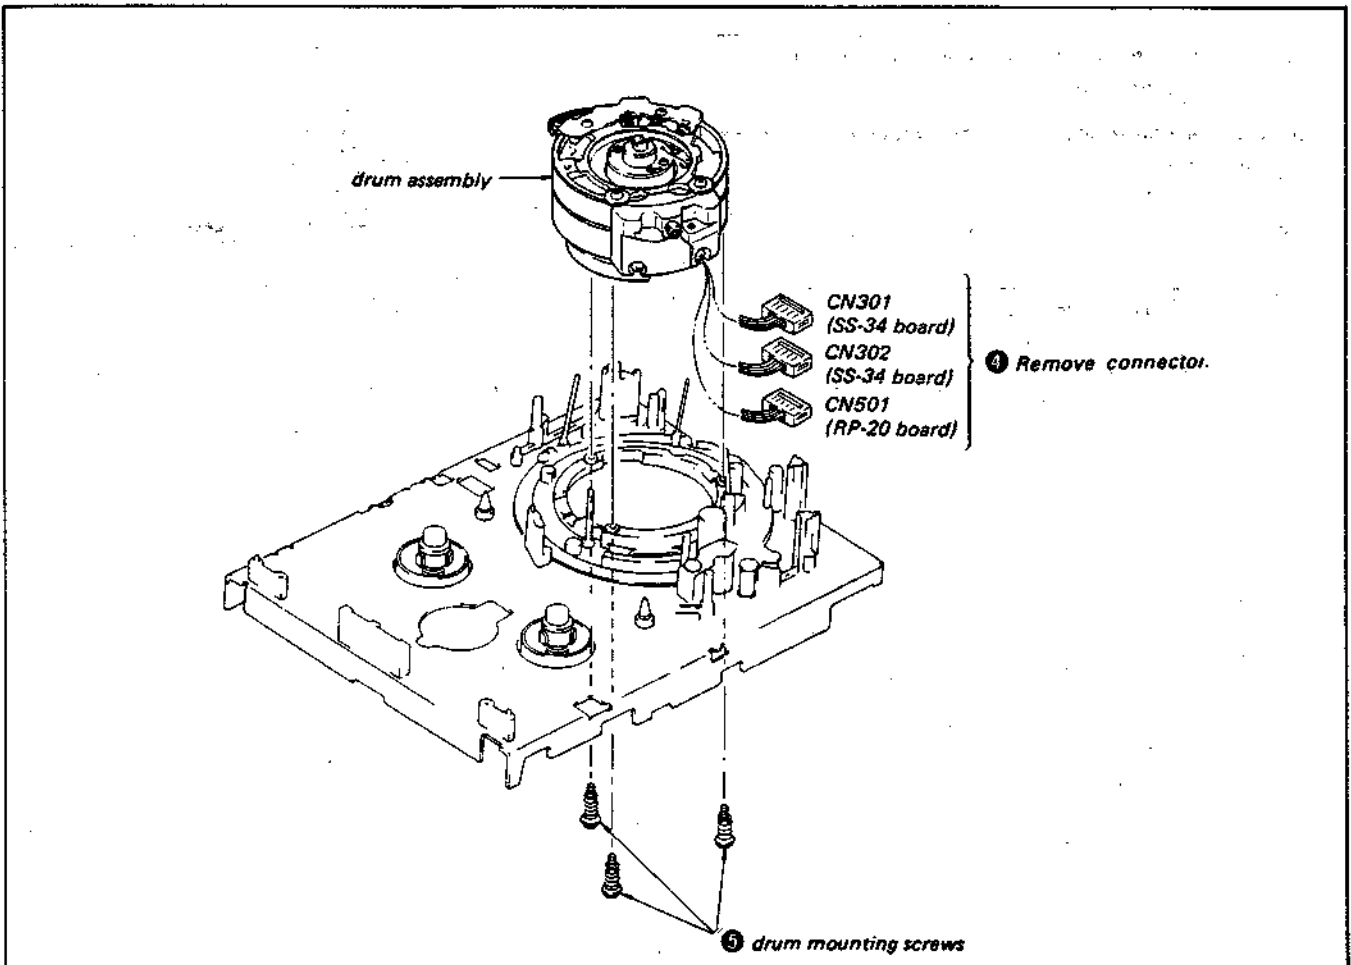

Fig. 3-6. Removal of the drum assembly
- 4) Remove the 3 connectors from the rear of the chassis as shown in Fig. 3-6.